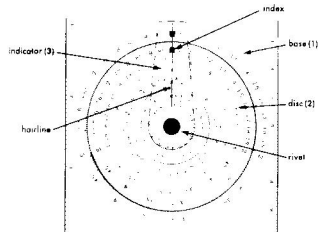

Figure 2
The circular slide rule has three major elements, the base (1), the disc (2) and indicator (3) (or cursor) attached to the base by a rivet (see Figure 2). The hairline is inscribed on the indicator. Index marks **I** and **U** are located at the beginning of the C and D scales.